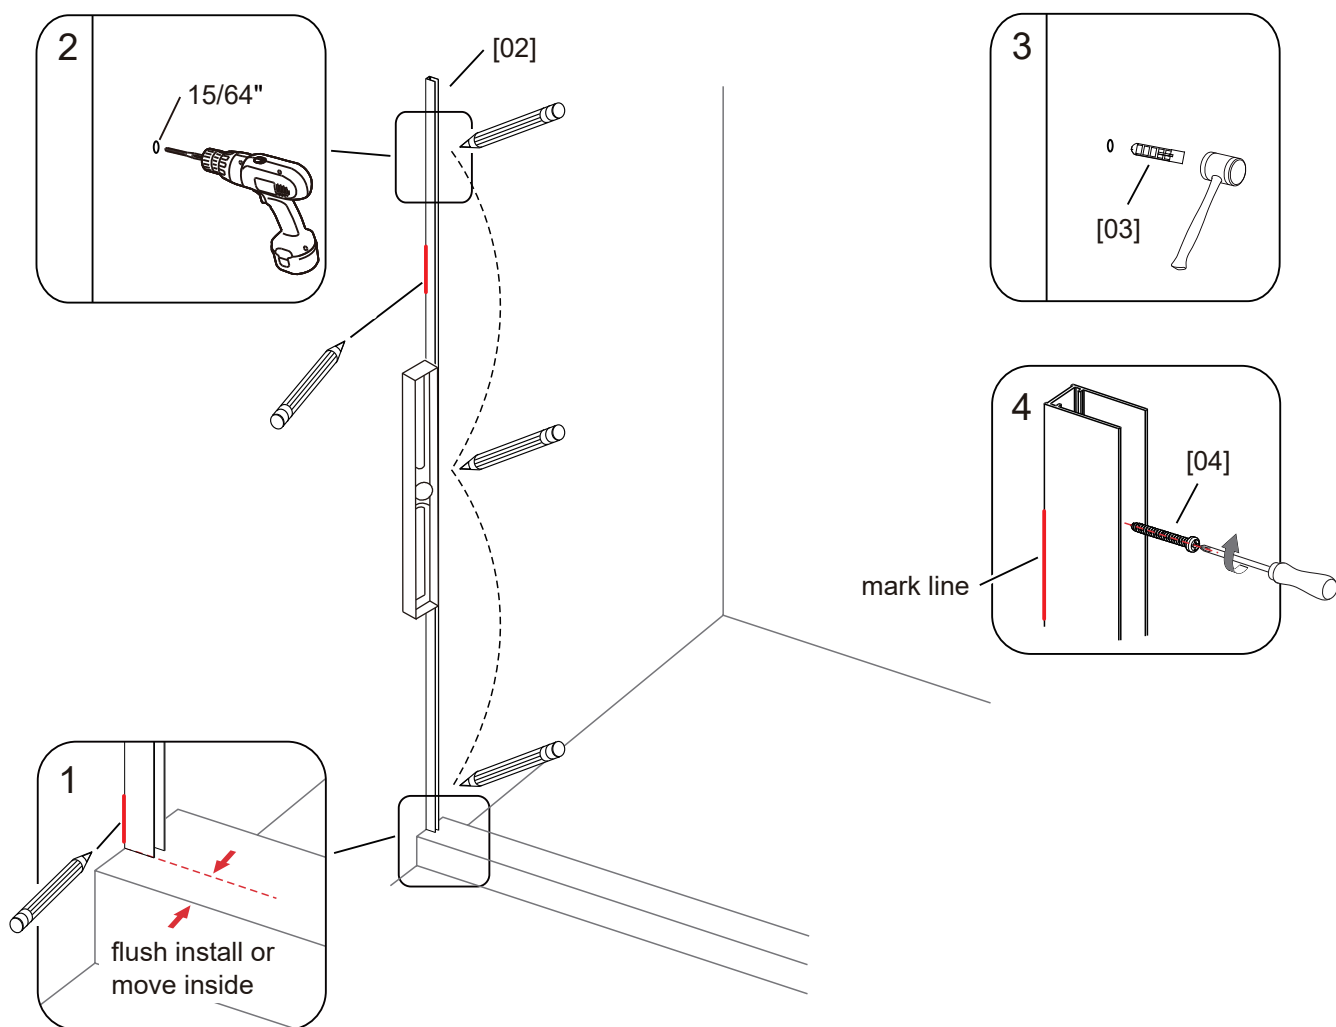

Fig 1
1. Position the **Wall Jamb [02]** on the wall as shown in the figure. Adjust it to ensure it is plumb. (Refer to Fig. 1, Fig. 1.1)
2. Mark the **screw hole positions** through the **Wall Jamb [02]**. Draw lines along the side of the **Wall Jamb [02]** on the wall as indicated in the figure, then remove the **Wall Jamb [02]**. (Refer to Fig. 1, Fig. 1.1)
5. Reposition the **Wall Jamb [02]** on the wall as shown in the figure. Adjust it to align with the **marked line** and ensure it is plumb. Secure it with **Screws [04]** using a **Screw Driver**. (Refer to Fig. 1, Fig. 1.4)